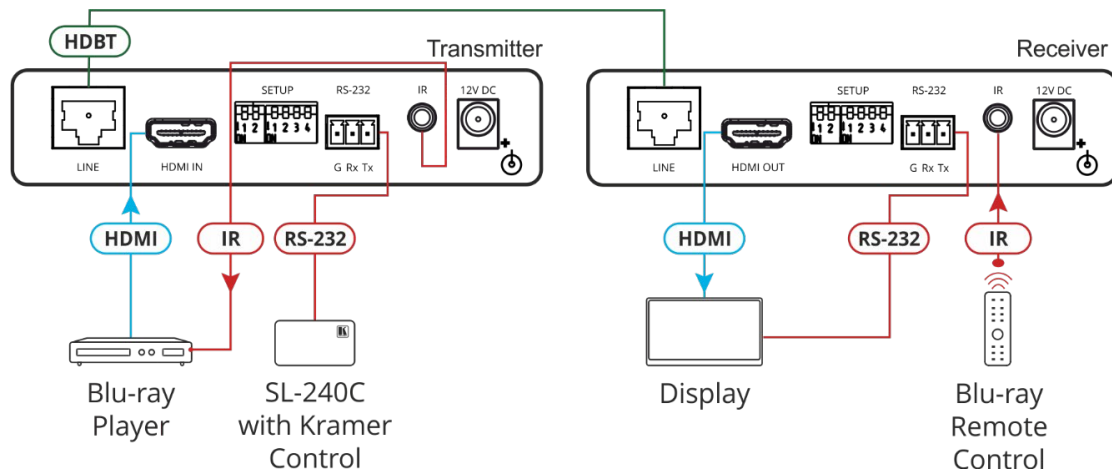

Figure 3: Connecting the extenders
To connect the **TP-583Txr** and **TP-583Rxr** as illustrated in the example in Figure 3:
1. On **TP-583Txr** connect an HDMI source (for example, a Blu-ray player) to the HDMI IN connector (6).
2. On **TP-583Rxr** connect the HDMI OUT connector (16) to an HDMI acceptor (for example, a display).
3. Connect the LINE RJ-45 (5) connector on **TP-583Txr** to the LINE RJ-45 connector on **TP-583Rxr** (15).
- On **TP-583Txr** connect a controller (for example, **SL-240C** room controller) to the RS-232 3-pin terminal block connector (8).
- On **TP-583Rxr** connect the RS-232 3-pin terminal block connector (18) to the RS-232 control port on the display.
- On **TP-583Txr** connect the IR 3.5mm mini jack (9) to an IR emitter cable and connect it to the Blu-ray IR sensor.
- On **TP-583Rxr** connect the IR 3.5mm mini jack (19) to an IR sensor (receiver) cable.
6. Connect the power adapters to both extenders and to the mains electricity (not shown in Figure 3).